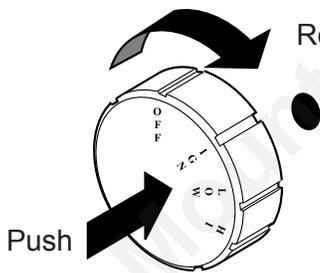

Figure 29 - IGN Position
6. From OFF position, push in gas control knob slightly and turn counterclockwise to the IGN position. See *Figure 29*. Push in and hold control knob for 5 seconds.